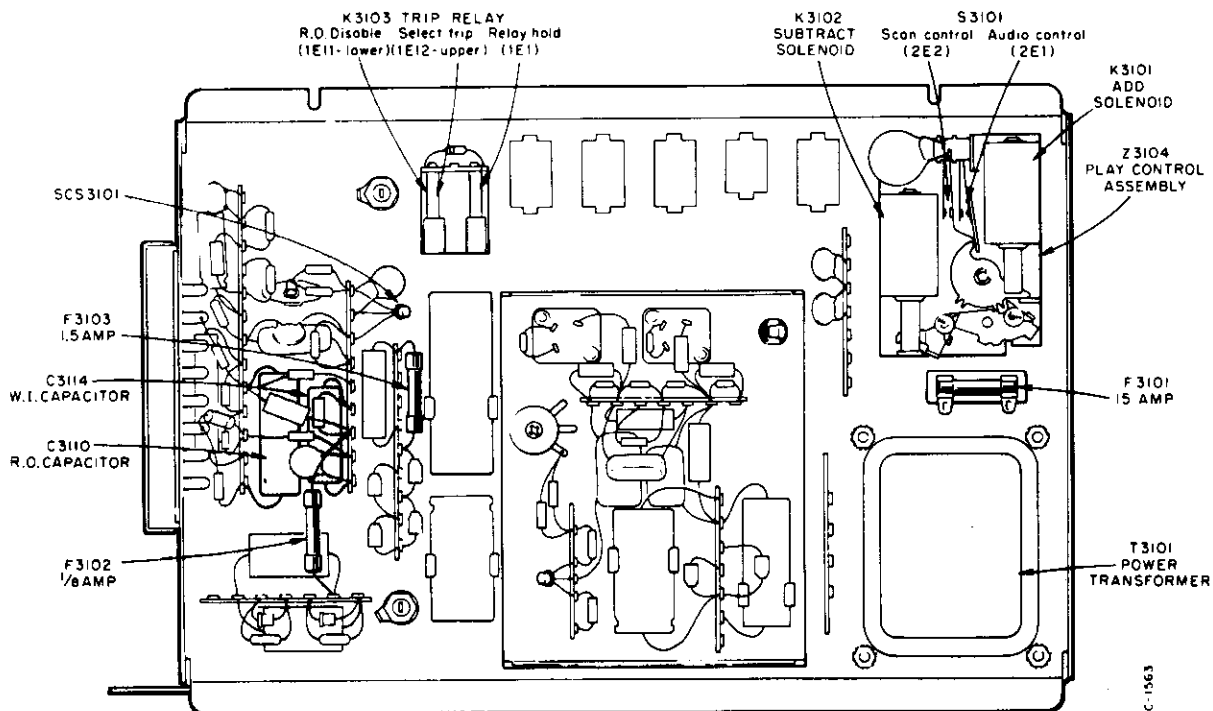

Figure 3. Parts Location Detail Bottom View.
2. Press and release the add solenoid plunger. (Refer to Figure 3 for the location of the solenoid).